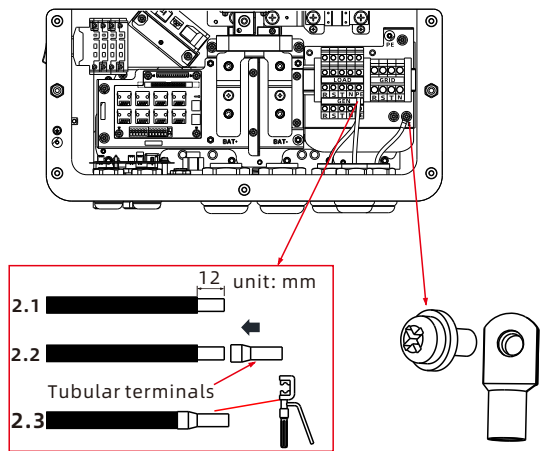

Fig 6.10 Grounding Schematic
2) Connect a ground cable to the copper grounding bar. Fig 6.10 shows the position of the grounding bar inside the right cover plate;